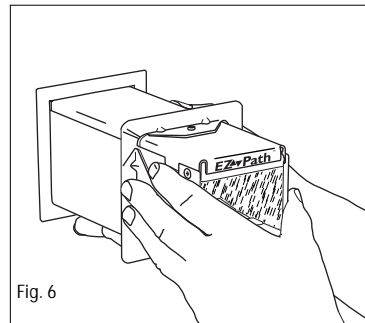

Fig. 6
4. Insert pathway through wall (with the stamping) using previously installed wall plate and gasket as a stop (See Fig. 6).